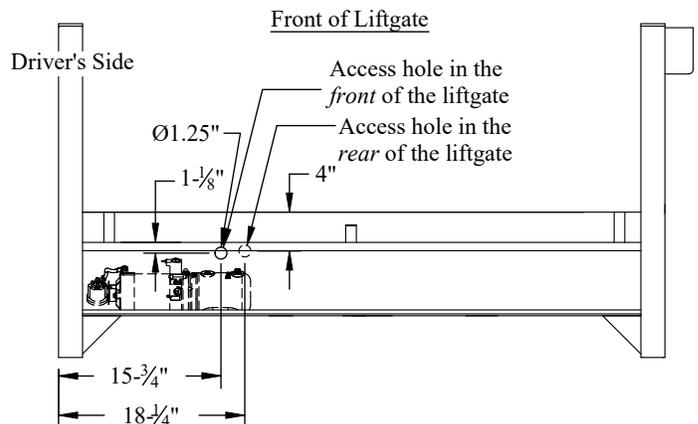

Figure 7: Spare tire access.
- Remove and Discard** the black plastic plugs from the mainframe at the location shown (Figure 7).